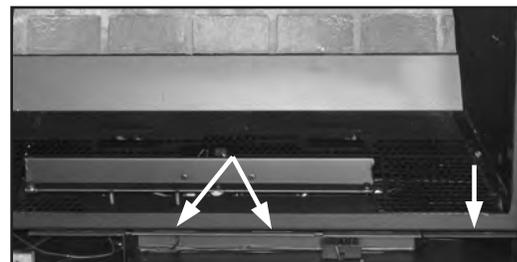

Figure 36: Air Intake Cover Plates.
- c) Remove the two (2) air intake covers below the firebox (refer to Figure 36), they can be pried out using a flat head screwdriver.